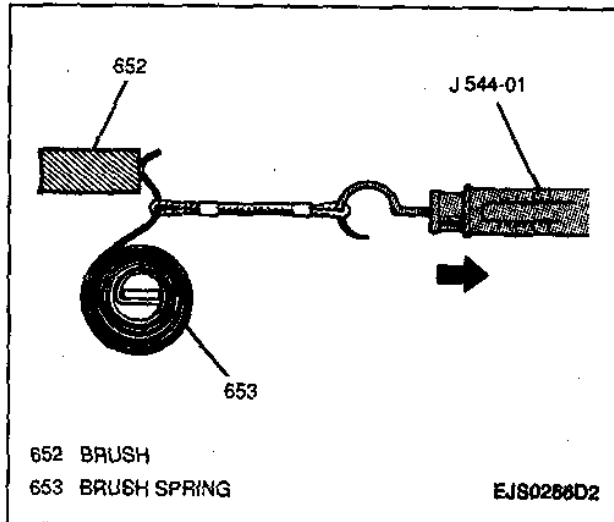

Figure 28—Measuring Brush Spring Tension
8. Brush spring tension using a J 544-01 (Figure 28). Standard tension is 1.9 kg (4.19 lbs.). If brush spring tension is less than 0.7 kg (1.54 lbs.), the brush spring must be replaced.